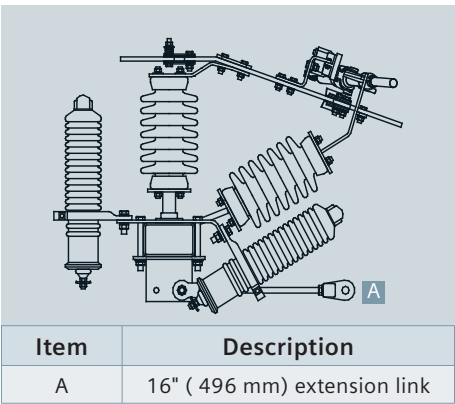

Figure 4: Extension link
6. Extension links (supplied by others) (refer to Figure 4: Extension link) are required on the jaw side of the air switch only, if dead ending on the air switch unit. Some users prefer to install the extension links at this step.